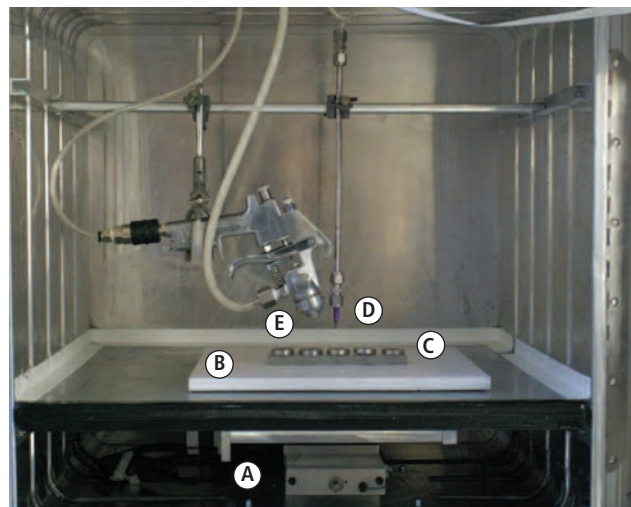

Fig. 4: The TM – CMC automated test rig
Fig. 4 shows an automated rig developed by HKPB Scientific for generating reproducible samples for physical, chemical and biological testing. The rig consists of an upper and lower chamber that are isolated from each other. An XY positioning table (A) located in the lower chamber is used to accurately move and position the sample platform (B) and the test samples (C) below the shot peening nozzle (D) and the two fluid atomiser (E). The shot peening nozzle and the two fluid atomiser are positioned so that the streams of shot and atomised coating precursor are directed to the same spot on the samples so that a coating is formed according to the mechanisms described earlier. HKPB Scientific uses aluminum oxide